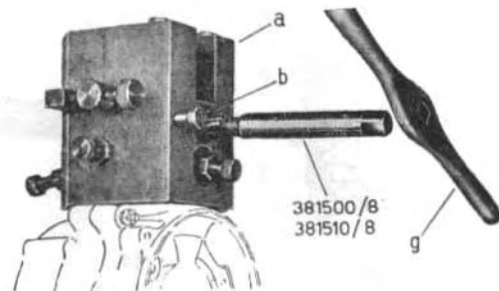

Fig. 102 - Reaming the new bush.
4. - Ream the bush by inserting the reamer 381500/8 (see Fig. 102) into the guide hole « b » of part « a » of fixture T.0020244 and turning it through by means of tap wrench « g ».